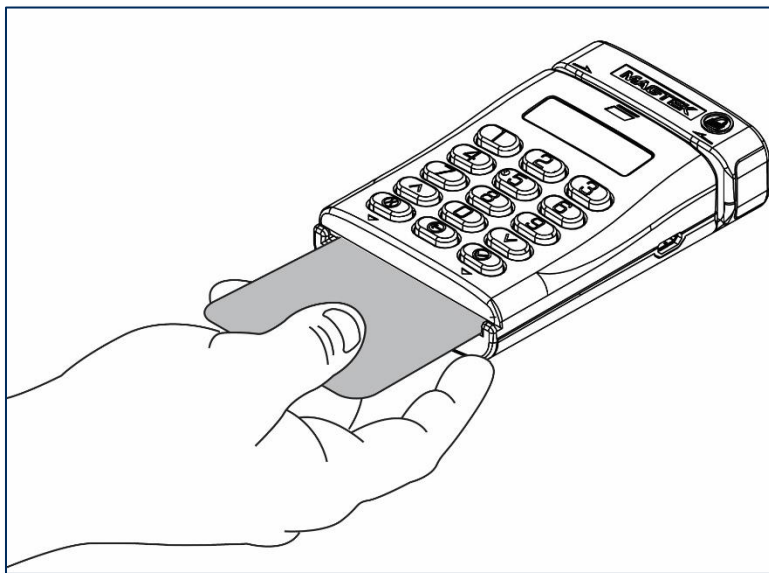

Figure 4-5 - Inserting a Chip Card Into DynaPro Mini
- 1) Locate the slot on the front of the device shown in **Figure 4-5**.